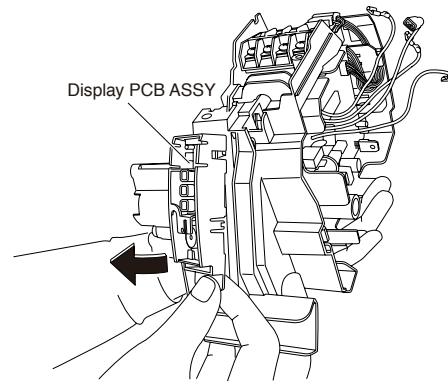

Fig. 29
- (6) Remove display P.C.Board assy. (Fig.29)